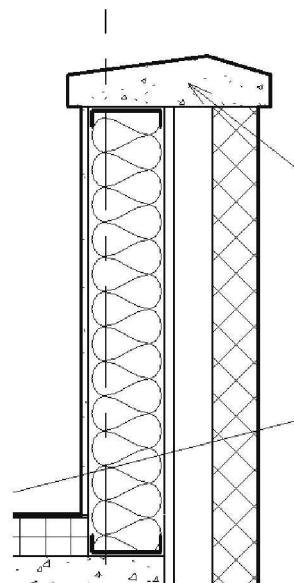

FIGURE 10-4.10
24. Pick the midpoint of the sill plate and the top plate to draw a line that represents the center of the insulation symbol; you can pick in either direction (Figure 10-4.10).